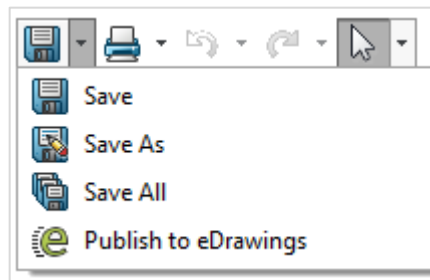

Fig. 1.5 – Save file
**Save:** Press this button to save active part or assembly files on the PC's hard drive. It also includes options such as «Save, Save as, Save all, and «Publish to eDrawings». Keyboard shortcut: «Ctrl + S» (fig. 1.5).